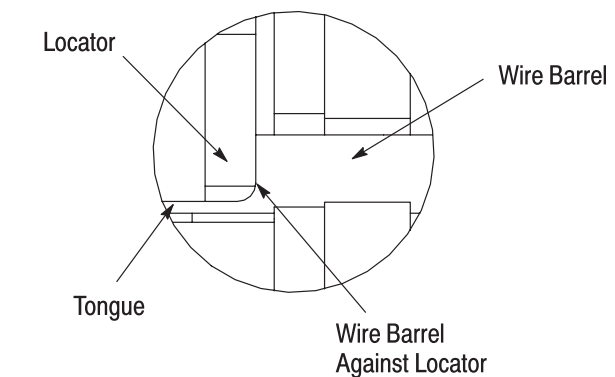

Figure 4
3. Position the terminal between the crimping dies (Figure 4). The terminal is properly positioned when the tongue of the terminal is under the locator and the wire barrel is against the locator.